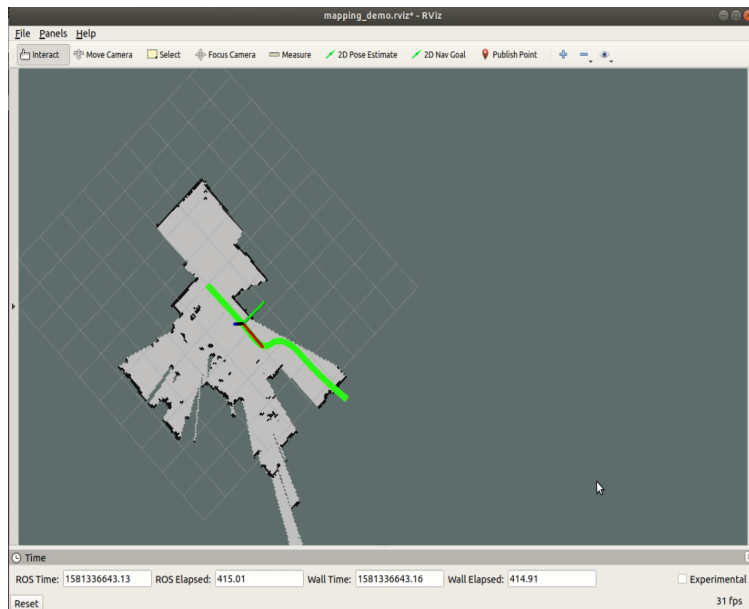

Figure 4: Localization on real car
- **Real car** - On the real car we used the same package as before, but the localization did not work. We found that on the real car the wheel odometry data was too noisy. So we decided to remove them, and used Extended Kalman Filter only with lidar. To run slam with lidar data execute: `'roslaunch odometry_agent hectorslam_standalone.launch '`. After running localization, we can run offline path tracking: `'roslaunch move_controller main_car.py '` and the car will follow the path like in Figure 4.